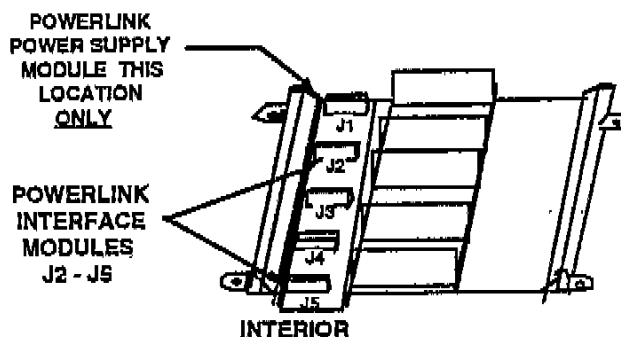

Fig. 2.3
THE INTERIOR mounts in the box and provides connectors and mounting rails for the Power Supply module and up to 4 POWERLINK Breaker Interface Modules. The interior also provides interconnection between the Power Supply Module and the POWERLINK Breaker Interface Modules. The Power Supply Module must always be mounted in position J1 only (see fig. 2.3).
- 2.3.3 Remove the plastic cover from connector J1 See Fig. 2.3.
- 2.3.4 The POWERLINK Power Supply Module must be connected to the uppermost position (J1) on the POWERLINK Interior. See Fig. 2.3.
See Section 3.1 for troubleshooting hints. Assure that the plug from the transformer is fully seated in P1. See Fig. 2.3.